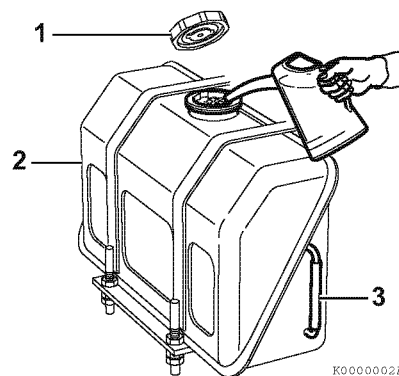

Figure 4-4
1. Clean the area around the fuel cap (1, **Figure 4-4**).
2. Remove the fuel cap (1, **Figure 4-4**) from the fuel tank (2, **Figure 4-4**).
3. Observe the fuel level sight gauge (3, **Figure 4-4**) and stop fueling when the gauge shows the fuel tank is full. Never overfill the fuel tank.
4. Replace the fuel cap (1, **Figure 4-4**) and hand tighten. Over-tightening the fuel cap will damage it.